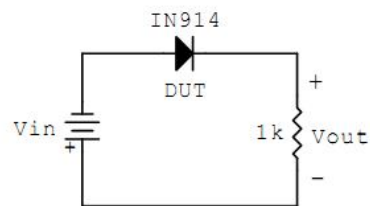

Figure 2
- 4) Devise a suitable circuit and measure the “reverse bias” I-V characteristics of the Silicon and Germanium diodes. (Fig.2)